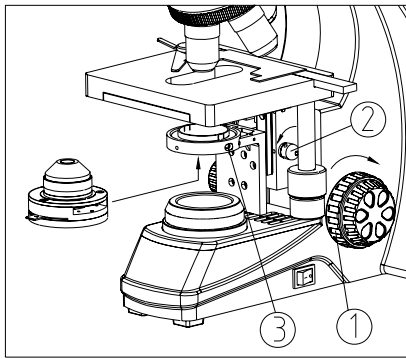

Fig. 3
1. Rotate the coarse focusing knob① to raise the stage to the highest position (see Fig. 3).
2. Rotate the condenser up-down knob② to lower the bracket of condenser to the suitable position.
3. Fully loosen the condenser lock-screw③.
5. Tighten the lock-screw③ of condenser, then raise the condenser with the up-down knob to the highest position.